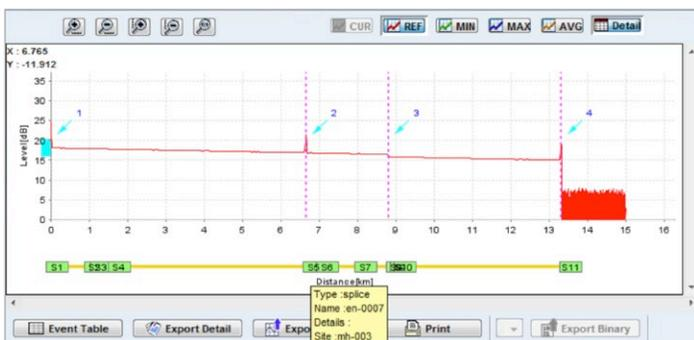

Figure 9a. Linear view with inventory below OTDR trace from NQMSfiber web interface
2. The route inventory list with their respective distances (splices, termination points) to be displayed in the OTDR linear view (see figure 9a)